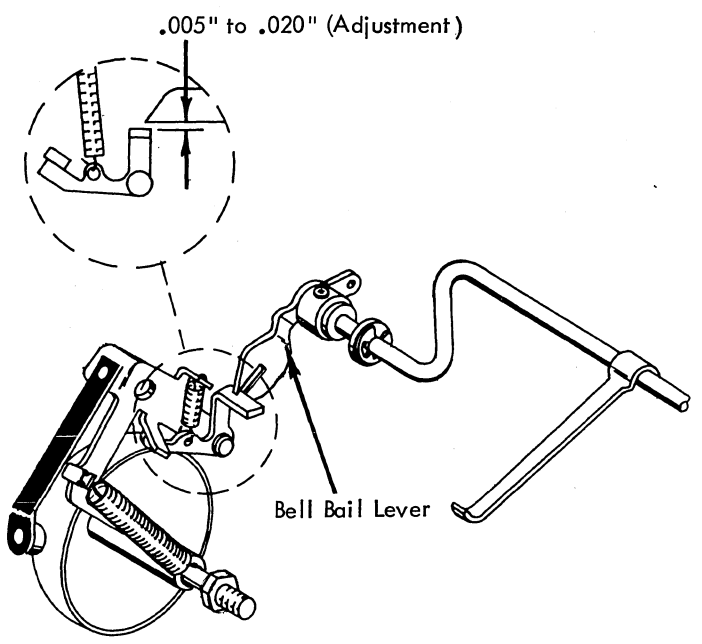

FIGURE 180. Bell Bail Lever (Early Style)
- a. Early - With the carrier positioned away from the right hand margin stop, adjust the bell bail lever located on the left end of the bellringer bail to have $.005$ " to $.020$ " clearance with the bellclapper bellcrank lever when the bail is at rest against the bail stop (Fig. 180). The bail stop is located at the right end of the bail.